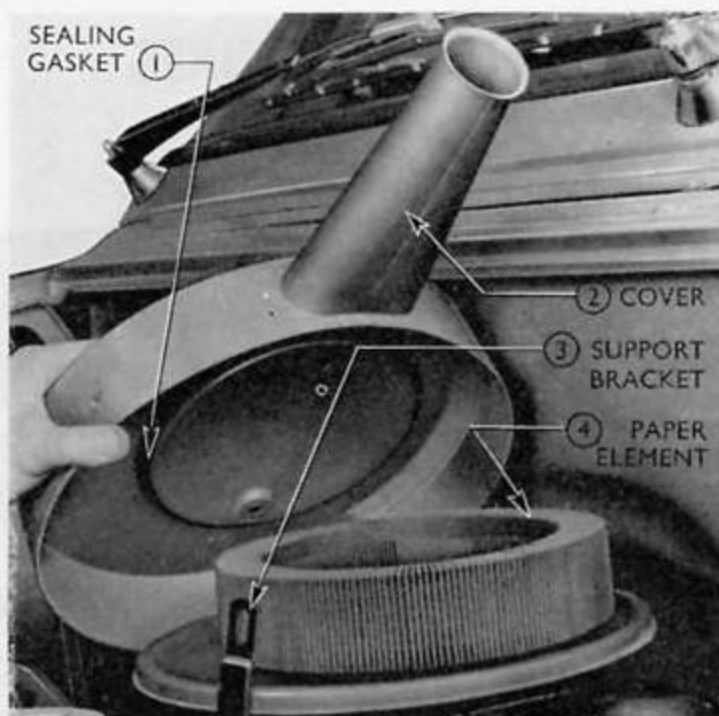

Fig. 2
1. **Fit two new rubber sealing rings**, one round the boss inside the top cover, shown in Fig. 2, the other locating at the bottom, inside the body of the cleaner.